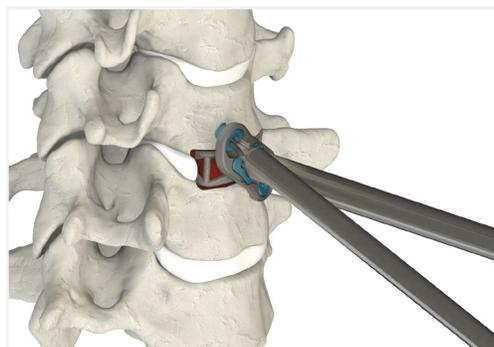

Figure 10
- ▲ Insert the screws using the Straight Driver. The Straight Driver uses a press-fit to retain the screws (Fig. 10).